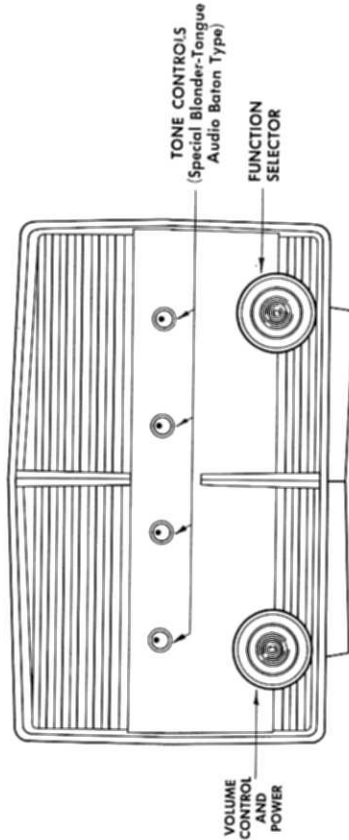

Fig. 2
2.4 Set function selector switch to appropriate position (phono mag, phono xtal, tuner or tape/aux). See Fig. 2.